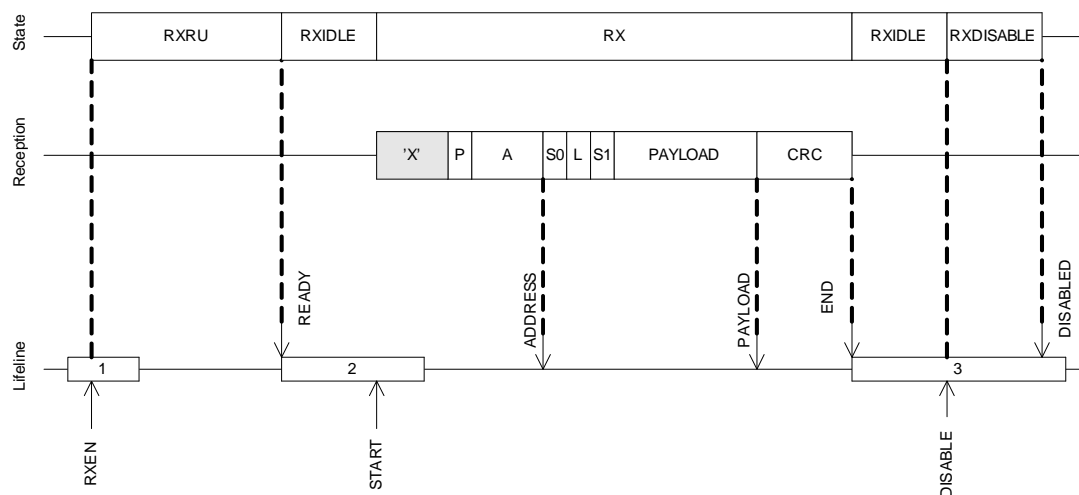
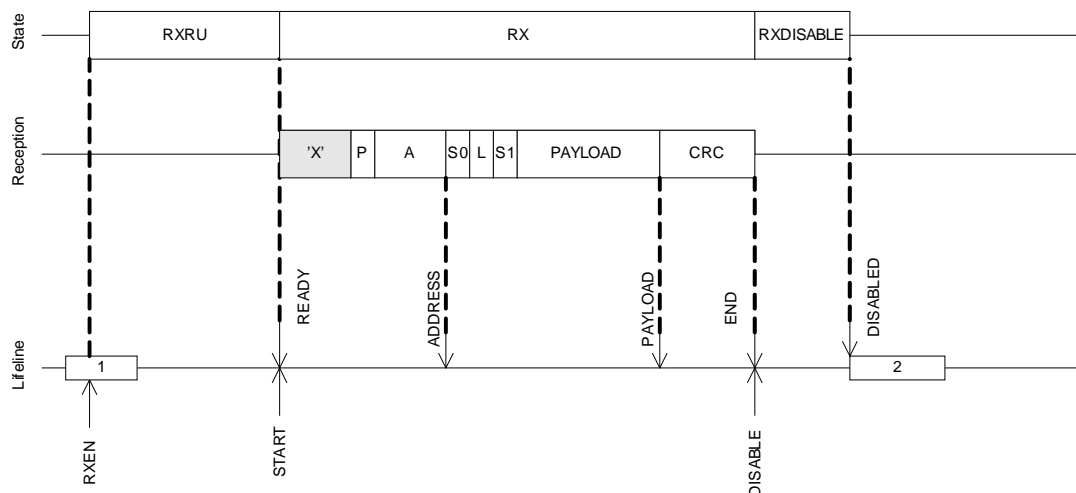

Figure 23 Receive sequence
Figure 24 Receive sequence using shortcuts to avoid delays
Before the RADIO is able to receive a packet, it must first ramp-up in RX mode. An RXRU ramp-up sequence is initiated when the RXEN task is triggered. After the radio has successfully ramped up it will generate the READY event indicating that a packet reception can be initiated. A packet reception is initiated by triggering the START task. As illustrated in **Figure 23** the START task can first be triggered after the RADIO has entered into the RXIDLE state.
Figure 24 on page 73 illustrates a single packet reception where the CPU manually triggers the different tasks needed to control the flow of the RADIO, that is, no shortcuts are used. If shortcuts are not used, a certain amount of delay, caused by CPU execution, is expected between READY and START, and between END and DISABLE. As illustrated in **Figure 24** the RADIO will be listening and possibly receiving undefined data, illustrated with an 'X', from START and until a packet with valid preamble (P) is received.
A slightly modified version of the receive sequence from **Figure 23 on page 72** is illustrated in **Figure 24** where the RADIO is configured to use shortcuts between READY and START, and between END and DISABLE, and therefore no delay is introduced.